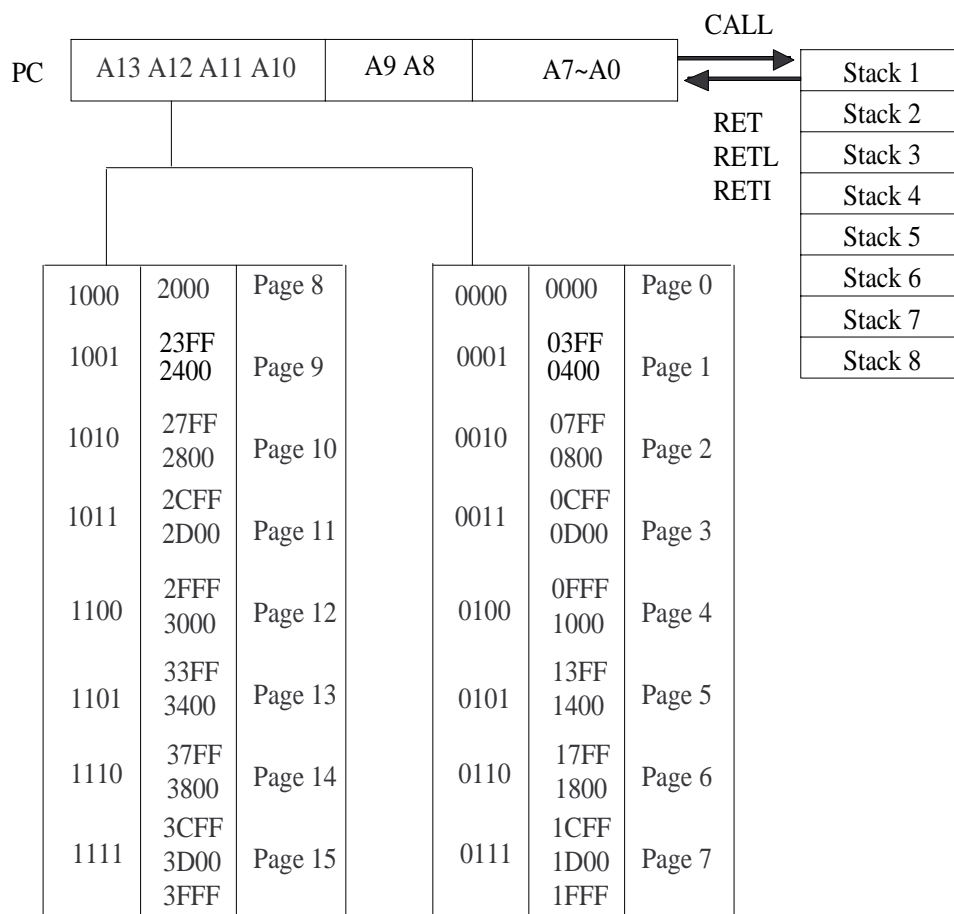

Fig.4 Program counter organization
- * The structure is depicted in Fig. 4.